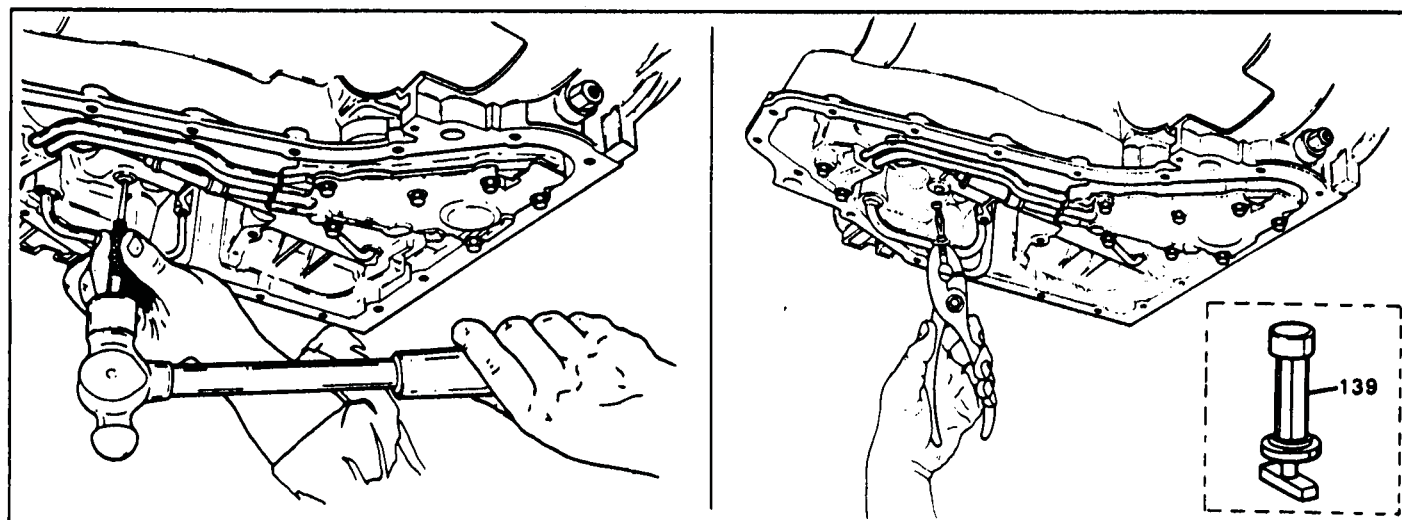

Figure 6
- (2) 1-2 BAND STOP ASSEMBLY - The 1-2 Band Stop has been eliminated as it is no longer needed (See Figure 6).
The new style 1-2 Band Assembly can be used to service ALL past models, but the 1-2 Band Stop MUST be removed and discarded (See Figure 6).